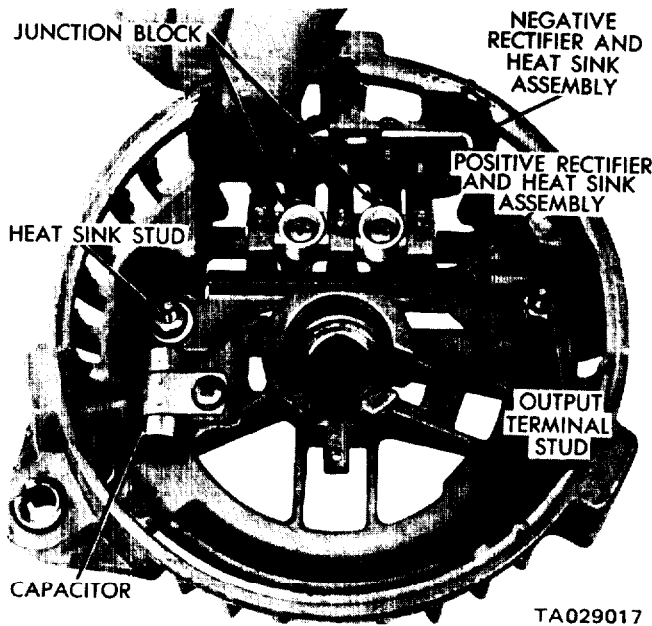

Figure 14-8. Removing Negative Rectifier Plate.
(1) Loosen the four hexagon-head screws that secure the rectifier plate to the rectifier end shield. Completely remove the two outer screws and lift the plate out of the end shield (figure 14-8).